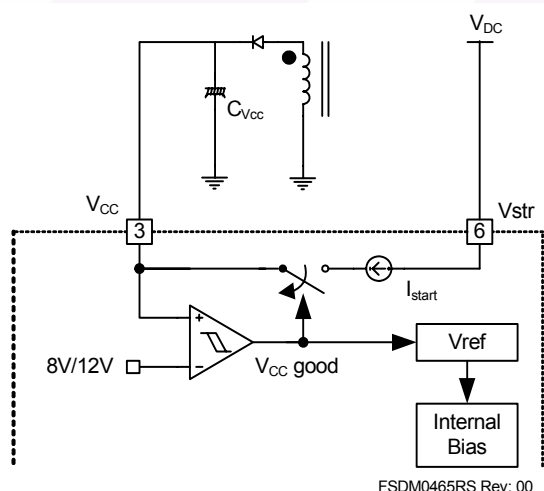

Figure 17. Internal Startup Circuit
**1. Startup:** In previous generations of Fairchild Power Switches (FPS™) the  $V_{CC}$  pin had an external startup resistor to the DC input voltage line. In this generation the startup resistor is replaced by an internal high-voltage current source. At startup, an internal high-voltage current source supplies the internal bias and charges the external capacitor ( $C_{VCC}$ ) that is connected to the  $V_{CC}$  pin shown in Figure 17. When  $V_{CC}$  reaches 12V, the FSDM0465RS begins switching and the internal high-voltage current source is disabled. The FSDM0465RS continues its normal switching operation and the power is supplied from the auxiliary transformer winding unless  $V_{CC}$  goes below the stop voltage of 8V.